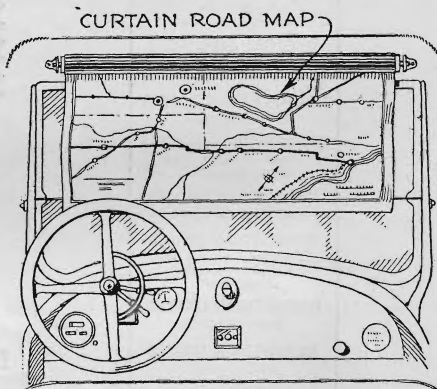

Fig. 4. Glued on a curtain above windshield.
P. D. Villwock, of Edwardsport, Ind., wins this month's \$10 prize for his suggestion of a curtain road map (Fig. 4). Each month POPULAR SCIENCE MONTHLY awards \$10, in addition to regular space rates, for the best idea sent in for motorists. Other contributions used are paid for at the usual rates.
ORDINARILY, when you want to consult a road map, you have to unfold a large and hard-to-handle sheet of paper. A convenient way to carry the map is to fit a roller curtain just above your windshield so that it can be pulled down, as shown in Fig. 4. Glue or otherwise fasten the map to this curtain. The